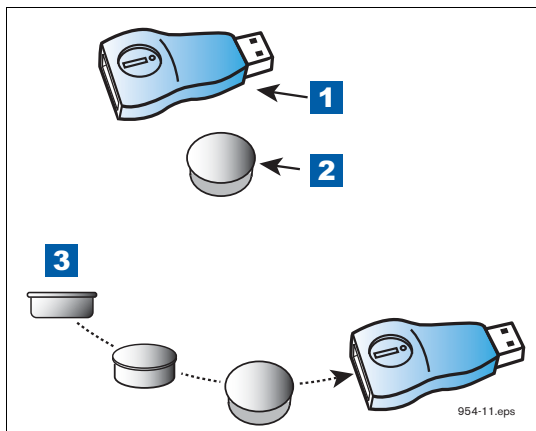

Figure 26. Inserting iButton Into the USB Adapter
3. Remove the plastic end cap from the USB Adapter and Insert the iButton in the adapter as shown in Figure 26 below.
### LEGEND FOR NUMBERED BOXES IN Figure 26